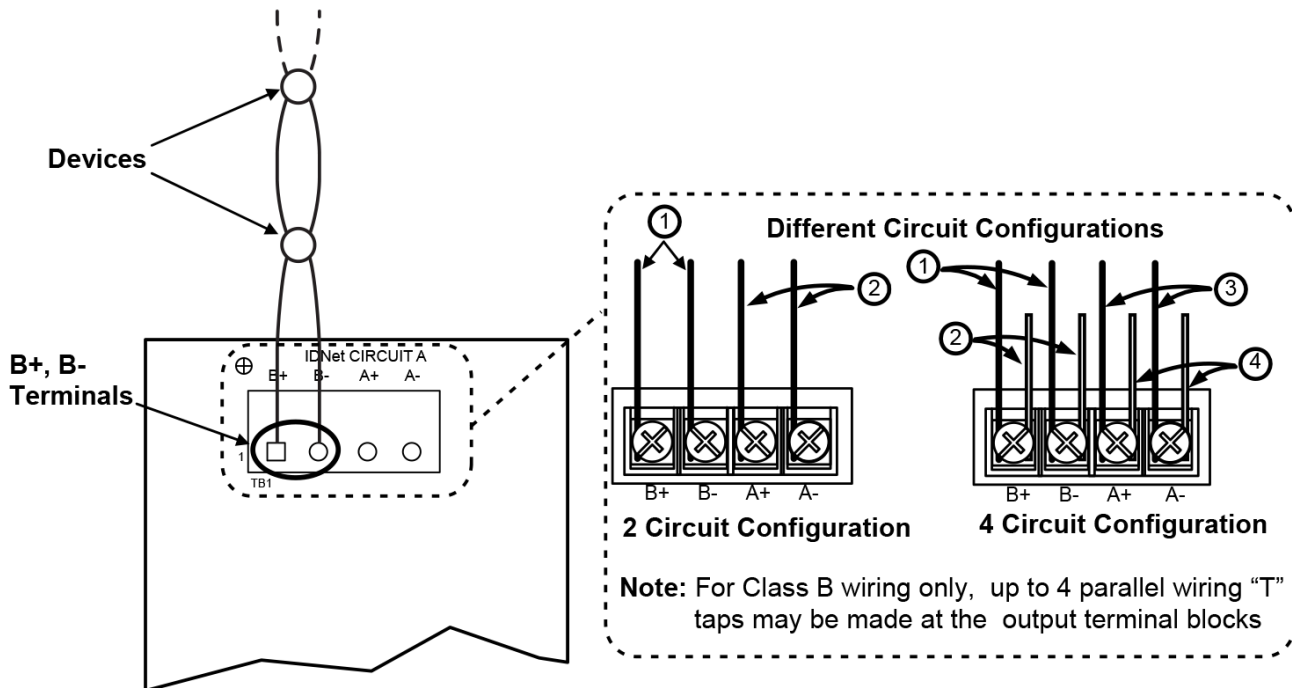

Figure 10: IDNet Loop Class B Wiring
- Route wiring from the Primary Terminals (B+, B-) to the corresponding inputs on the first device. It is possible to add up to 4 circuits per IDNet loop on the terminal block when using Class B wiring. See Figure 10 for the diagram.
- Route wiring from the first device to the next as in/out as shown in Figure 10. Repeat for each device.